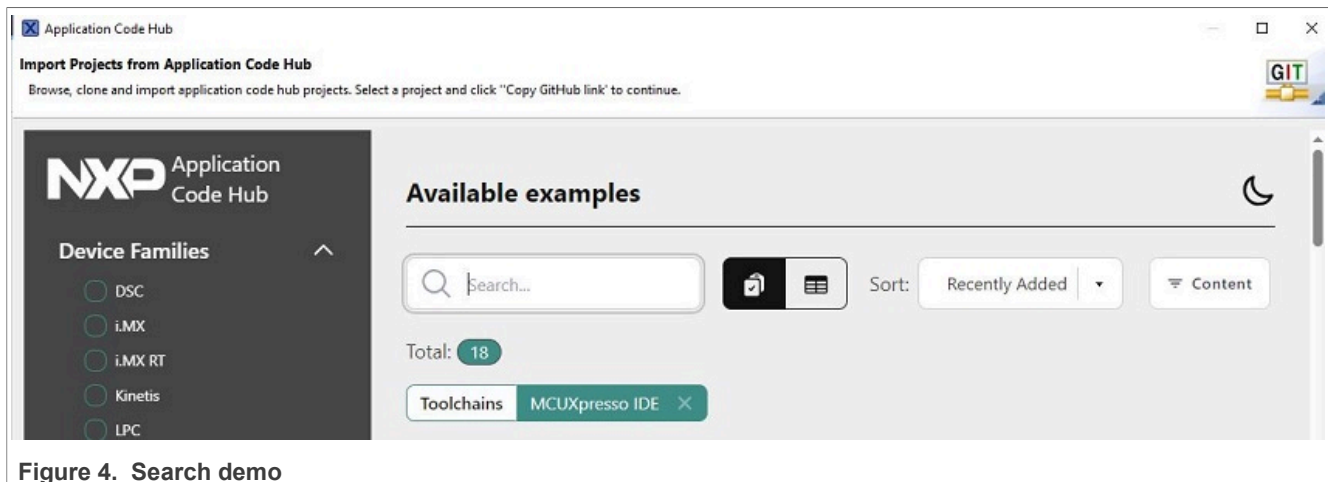

Figure 4. Search demo
2. As shown in Figure 4, enter the **demo name** in the search bar.